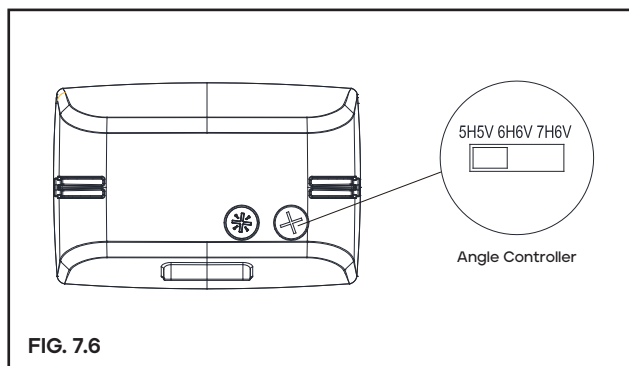
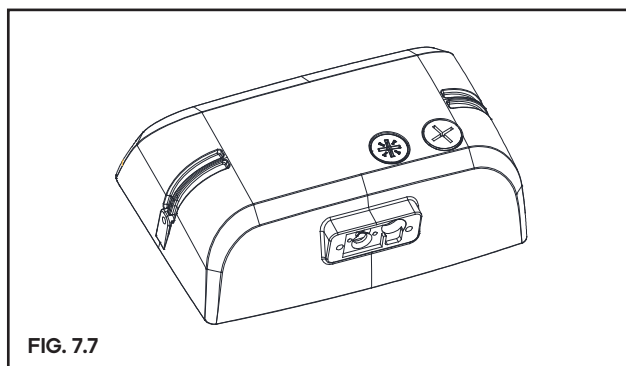

FIG. 7.6
FIG. 7.7
Step 1: Open the metal plug and plastic plug counterclockwise with a screwdriver. (Figure 7.6)
Step 2: Then slide the switch up and down to adjust the Angle Controller. (Figure 7-7)
Step 3: After adjusting the required control function (Figure 7-7), tighten the metal plug and the plastic plug clockwise. (Figure 7.6)